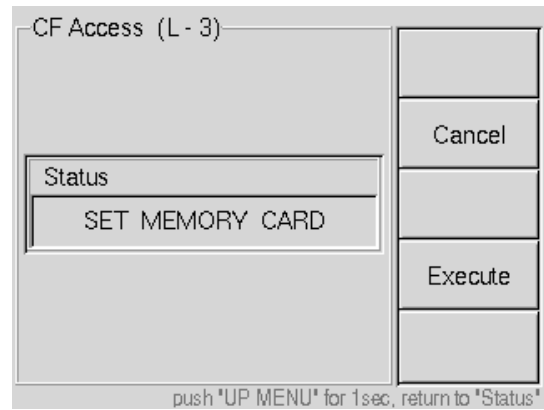

Figure 5-34 CF Access (2)
- (4) The screen as shown in Figure 5-34 is displayed.